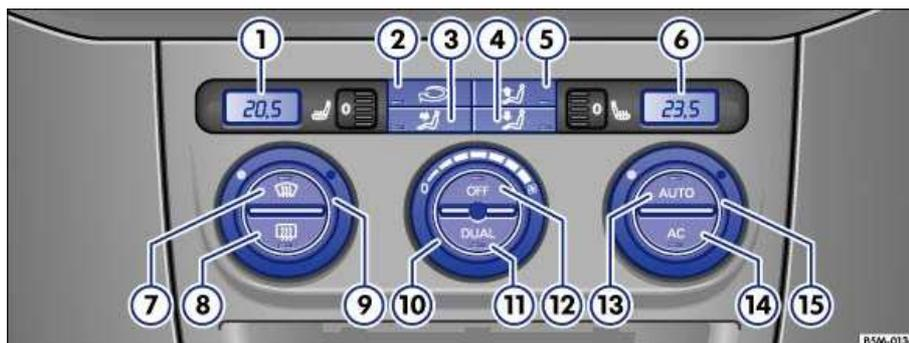

Fig. 106 Climatronic controls in the center console.
- Press the  button (2) to switch air recirculation mode on or off ⇒ Fig. 106. When it is switched on, a yellow indicator light in the button comes on.